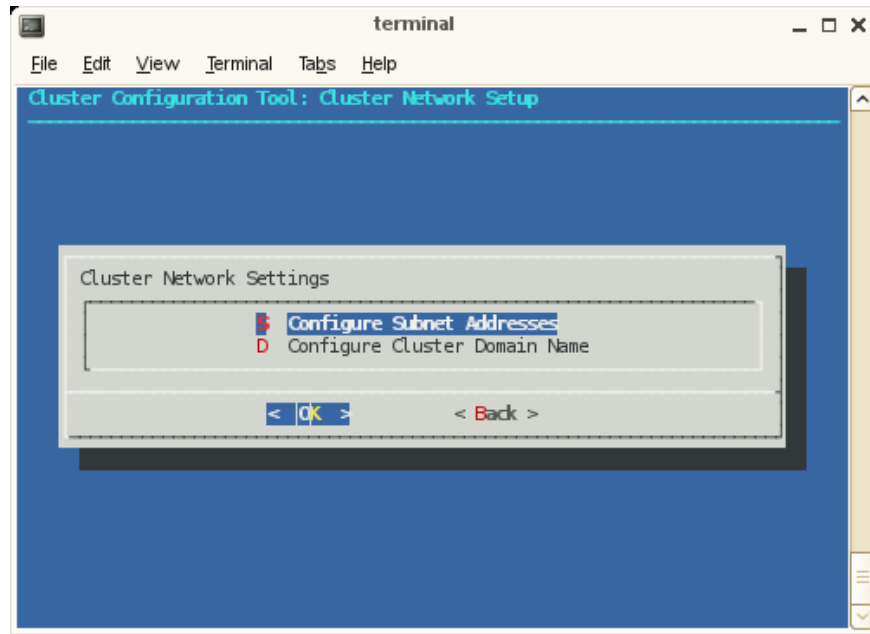

Figure 2-18 Cluster Network Setup Screen
10. After choosing the **Network Settings** option, the **Cluster Network Setup** screen appears, as shown in Figure 2-18 on page 61.